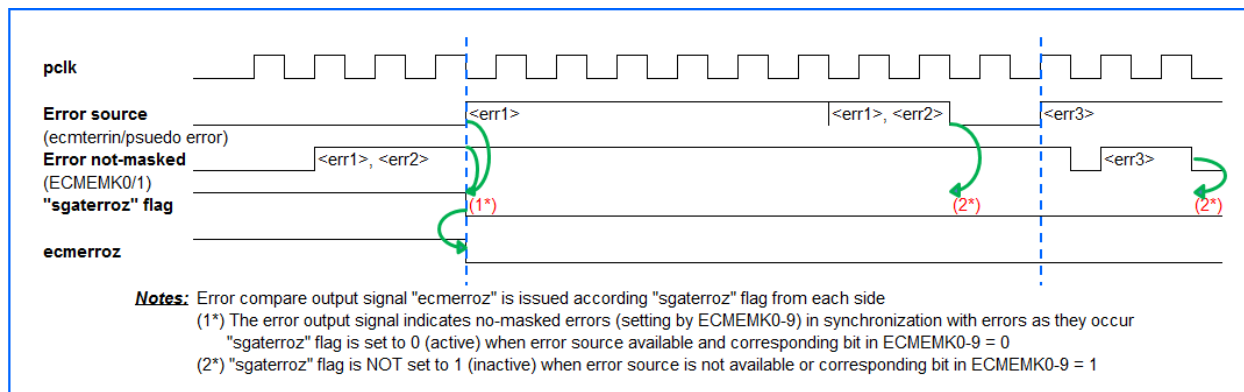

Figure 5.5: Error compare output issuing (1/2)
- The error output compare signal (“ecmterroz”) is issued accordingly with active level is result of **AND** operator between error output flags (“sgaterroz”) from Master and Checker sides: “ecmterroz” active level = “sgaterroz (M)” & “sgaterroz (C)”.
- When error input source actives or Pseudo error actives, “sgaterroz” flag is set to 0 (active level) immediately if corresponding bit in ECMEMK0-9 is 0. (Figure 5.5)